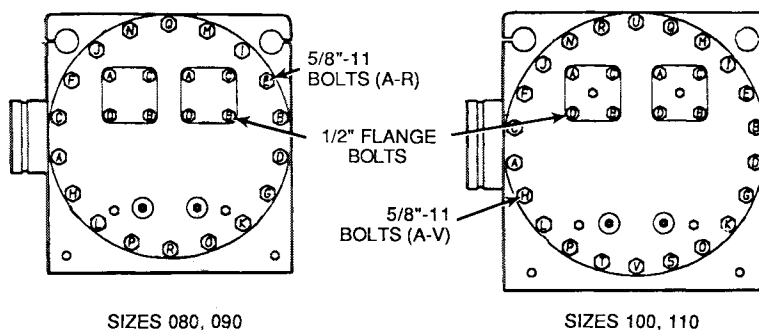

Fig. 16 — Cooler Head Bolt Tightening Sequence (Typical Tube Sheet)
2. Bolt tightening sequence is outlined in Fig. 16. Follow the numbering sequence so that pressure is evenly applied to gasket.